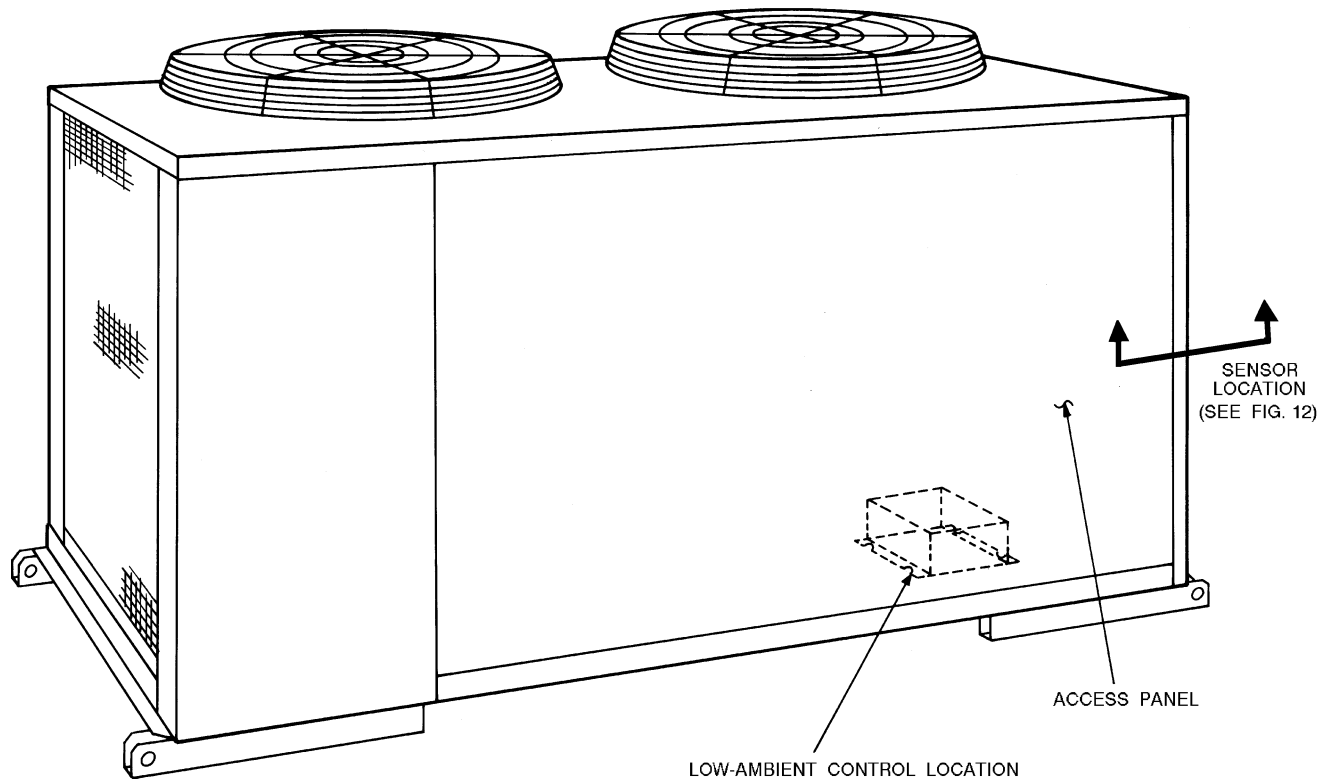

Fig. 11 — Location of Motormaster Low-Ambient Control
1. See Fig. 11 for the location of the access panel and Motor-master® low-ambient control in the bottom of the unit. Remove the access panel.